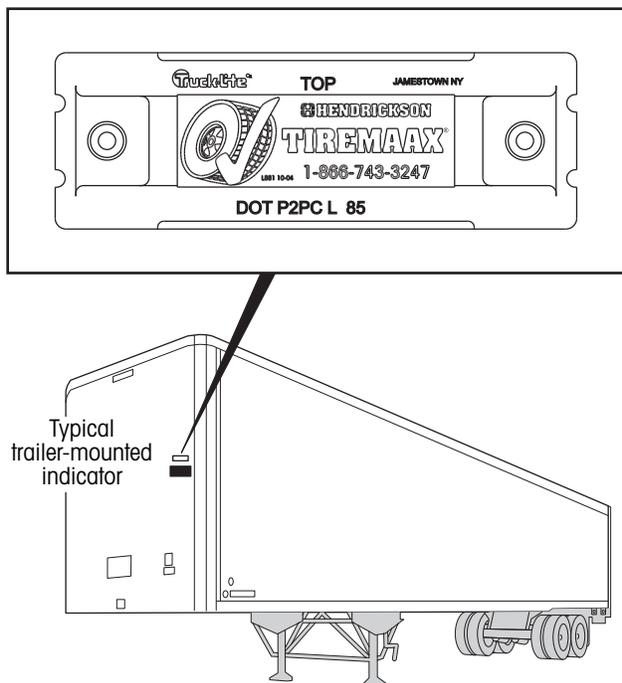

Figure 2. Trailer-mounted indicator
Air seals and hoses are constantly pressurized at a preset target pressure. A trailer-mounted indicator (figure 2) will turn on when the pressure in one or more tires is low, or when a system problem occurs. When the trailer-mounted indicator comes on for more than 10 minutes continuously, it is an indication of a potential system or tire leak. Refer to the Troubleshooting section on page 32 for more additional troubleshooting details. The trailer-mounted indicator will not turn on for minimal inflation requirements of less than an airflow of approximately 0.7 cfm, helping to avoid operator distraction when no action is required.
- Indicator (figure 2) on when system flow exceeds approximately 0.7 cfm
The system will pressurize the lines and measure tire pressure by comparing the pressure in the lines and tires to a regulated supply pressure. If the regulated supply pressure exceeds the line pressure, the system assumes one or more tires are low and automatically starts to inflate the low tire(s) to the target pressure setting. The remaining tires are protected from pressure loss by check-valves located in each tire hose. If one or more tires are low, the indicator (figure 2) will turn on and remain on as long as the flow exceeds approximately 0.7 cfm. The system continues to inflate to the proper pressure.
If the indicator (figure 2) remains on for more than 10 minutes, the system is attempting to inflate the tires but may not be able to adequately maintain proper tire pressure. The operator should stop and check the tires to determine if it is safe to continue to operate the vehicle and should seek service at the next opportunity.
The indicator (figure 2) will illuminate if the measured air flow exceeds approximately 0.7 cfm. The indicator will remain on until the tires are reinflated. If the indicator remains on for more than 10 minutes, the operator should stop the vehicle and check the tires for damage. Under some normal operating conditions, you may find that the indicator illuminates when no visible damage is apparent. This may be due to changes in ambient temperature while the trailer is idle. When the system is first powered on a trailer at a temperature significantly lower than when previously operated, cooling of the tires may result in a drop of pressure below the target pressure, thus illuminating the indicator. Refer to the Appendix (figure 41) for examples of temperature effects on tire pressure.